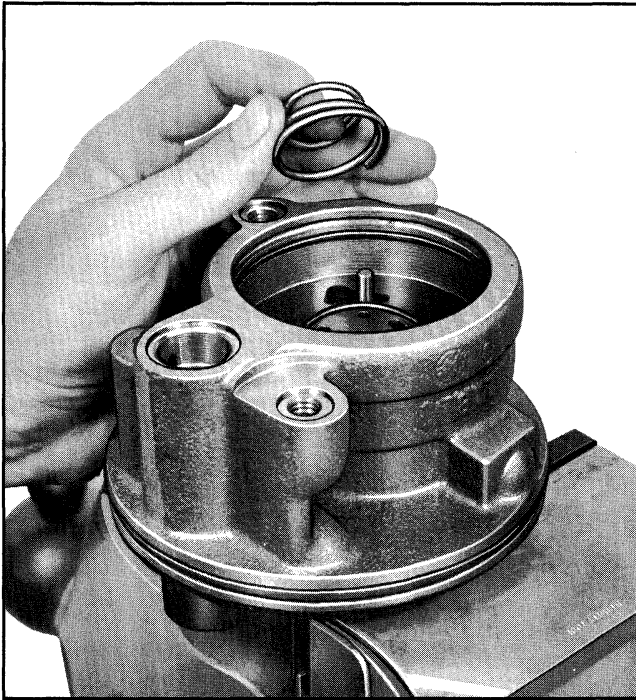

Fig. 9A-53 Installing Pressure Plate Spring
11. Install end plate retaining ring while pump is in arbor press. Be sure it is completely seated in the groove of the housing (Fig. 9A-54).